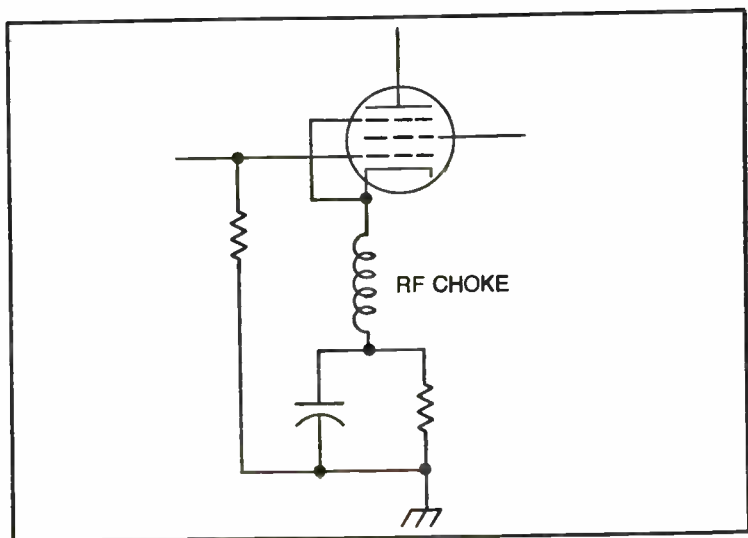

Fig. 20-15. Removing interference in tube type equipment by connecting an rf choke.
**Tube Type Equipment.** Interference in tube type equipment can be avoided by connecting an rf choke (ranging in value from 2 milihenry to 5 milihenry) in the upper end of the cathode circuit as shown in Fig. 20-15.